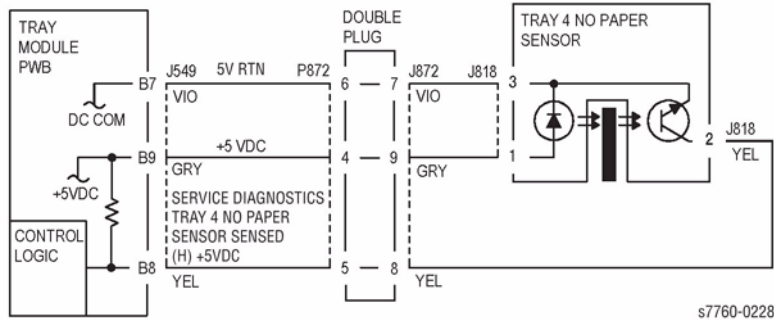
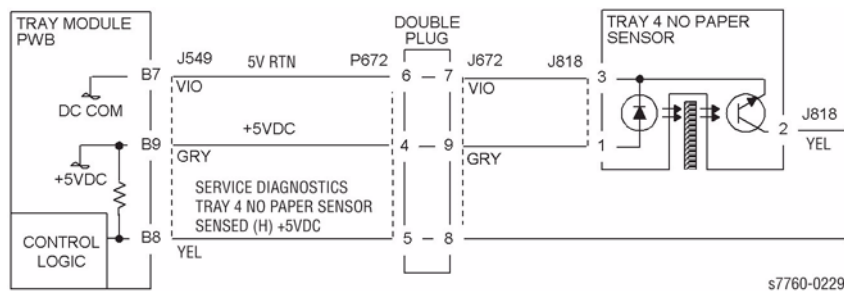

Figure 1 024-952 Tray 4 No Paper Sensor (TTM)
Figure 2 024-952 Tray 4 No Paper Sensor (3TM)
Check the circuit of the Tray 4 No Paper Sensor (Figure 1 - TTM or Figure 2 - 3TM). Refer to the **Transmissive Sensor Procedure** for troubleshooting procedure.
- Ensure that the connectors shown in the circuit diagram (Figure 1 - TTM or Figure 2 - 3TM) are securely connected and that the wires are not damaged.